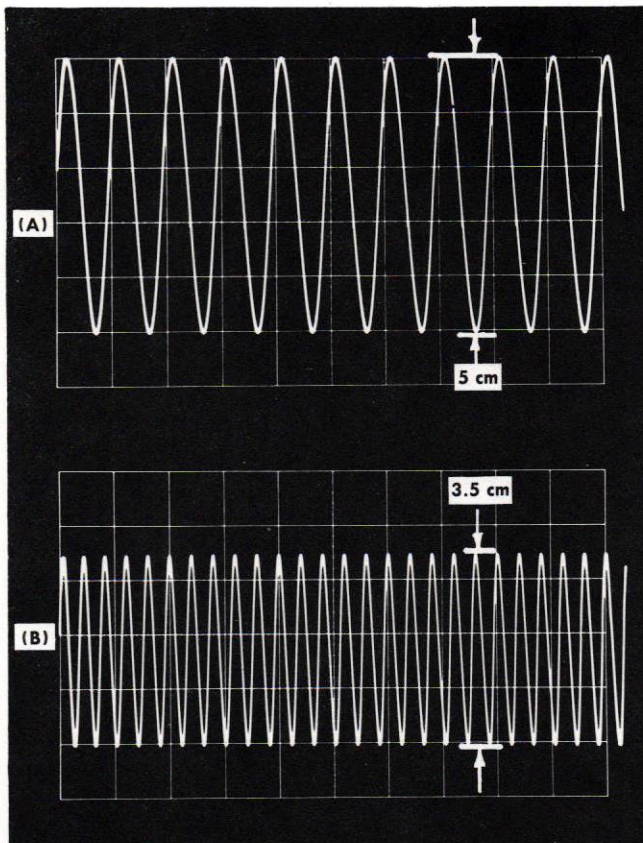

Fig. 6-21. Bandwidth of P6042 (A) 50 kHz display (B) 50 MHz display.
b. Increase the frequency of the constant amplitude signal generator until the amplitude of the display reduces from 5 centimeters to 3.5 centimeters. See Fig. 6-21.